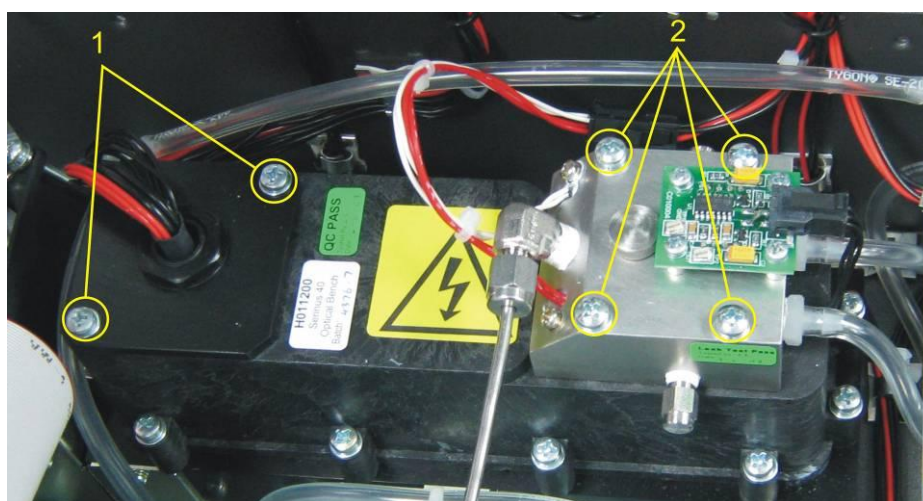

Figure 27 Opening the Reaction cell or PMT access cap
2. Using a Phillips head screwdriver, remove the desiccant pack access cap from the PMT housing. Refer to 1 in Figure 27
2. Disconnect the electrical and pneumatic fittings from the reaction cell, remove the four screws that secure the cell to the PMT housing, and remove the reaction cell from the PMT housing. Refer to 2 in Figure 27